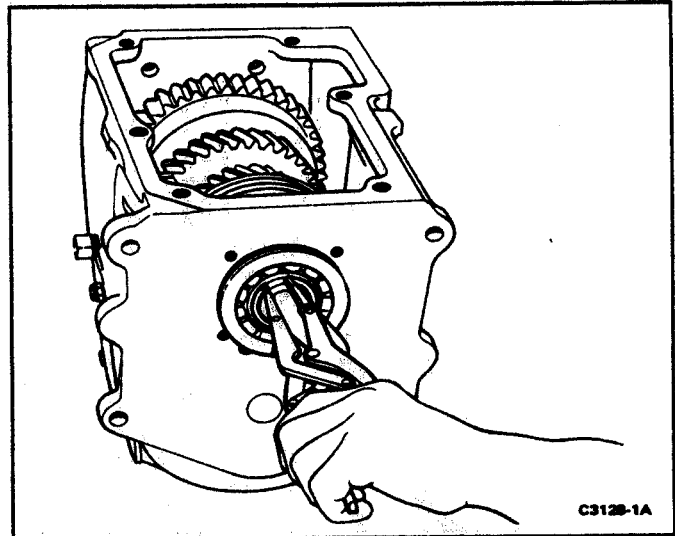

FIG. 8 Removing Input Shaft Bearing Snap Ring
10. Remove the input shaft bearing retainer and gasket. Remove the input shaft bearing snap ring from the input shaft and the snap ring from the bearing, (Fig. 8).